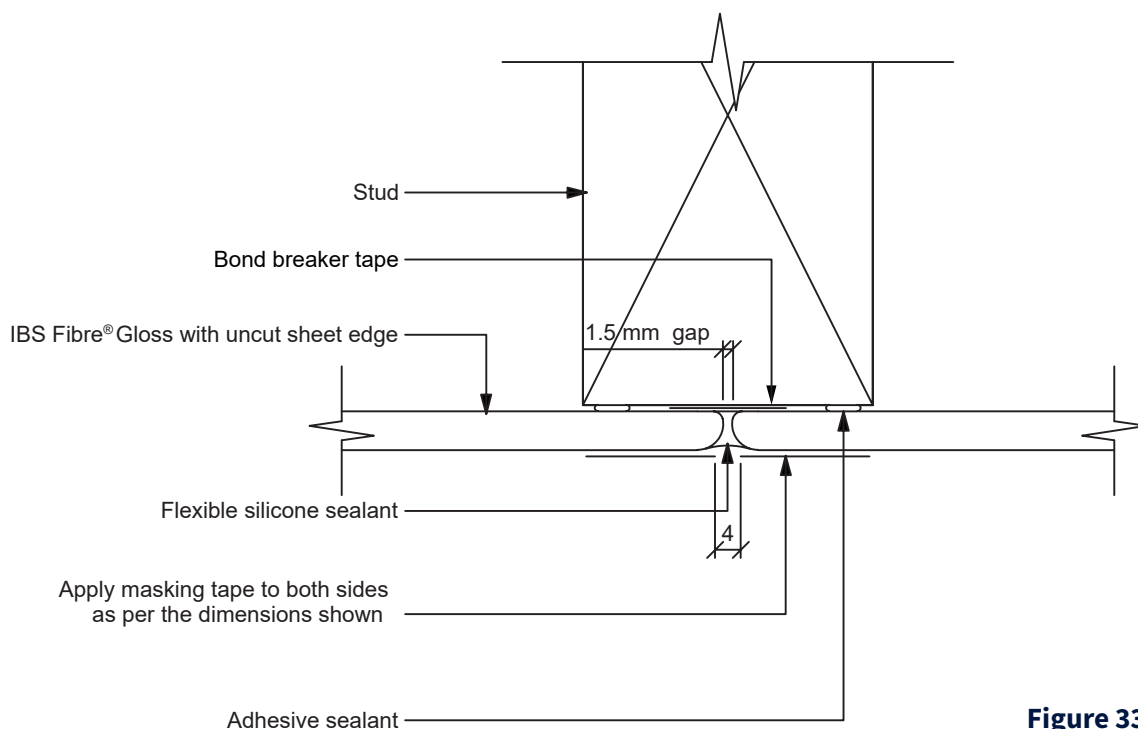

Figure 33
- Apply bond breaker tape to framing behind joints (see Fig. 33).
- Use factory-painted, radiused edges for all flat joints (see Fig. 33).